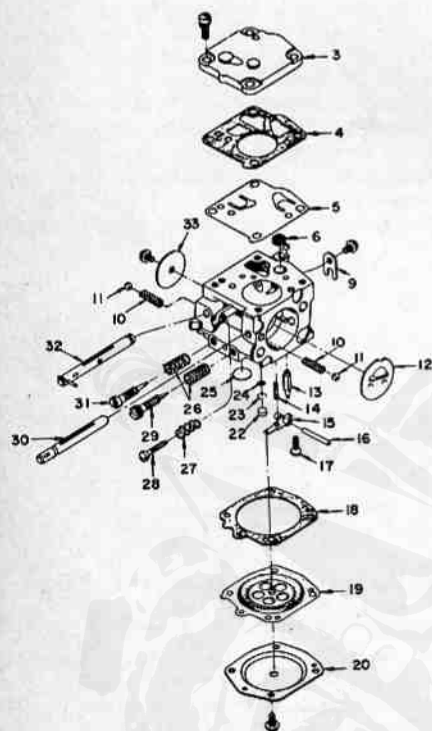

Fig. HL1—Exploded view of Tillotson HS-45A carburetor used on model 250 engine.
CARBURETOR. A Tillotson HS-45A carburetor is used on earlier engines; refer to exploded view of carburetor in Fig. HL1. Note: As engine speed is controlled by governor plate on rotary inlet valve, there are no governor linkage connections to throttle shaft. Throttle shaft has spring loaded detent to hold shaft in wide open position. Generator engine is not fitted with throttle
Fig. HL2—Exploded view of air intake and fuel system. Refer to Fig. HL1 for exploded view of carburetor (24). Control lever and shaft (2) is not used for generator engine and hole is covered by plug (3).
Later model carburetor is fitted with a main nozzle check ball which allows use of larger mesh inlet screen (6—Fig. HL1) and provides easier adjustment of fuel mixture. The check ball assembly will be in the same bore as the small body channel welch plug (22), retaining ring (23) and screen (24), and will replace these parts.